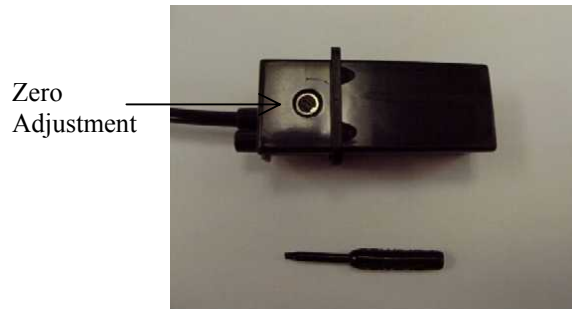

Figure 2-5 ICP Catheter Transducer
- Before inserting the Catheter into the patient, ensure that the MPM-1 Display indicates an ICP Pressure of “0 mmHg”. If not, use the tool from the Catheter Kit to turn the zero adjustment (Figure 2-5) on the bottom side of the Transducer Connector until the ICP Pressure indicates “0 mmHg”. Also, ensure that the temperature is a reasonable value, such as room temperature, before insertion of the Catheter into the patient.